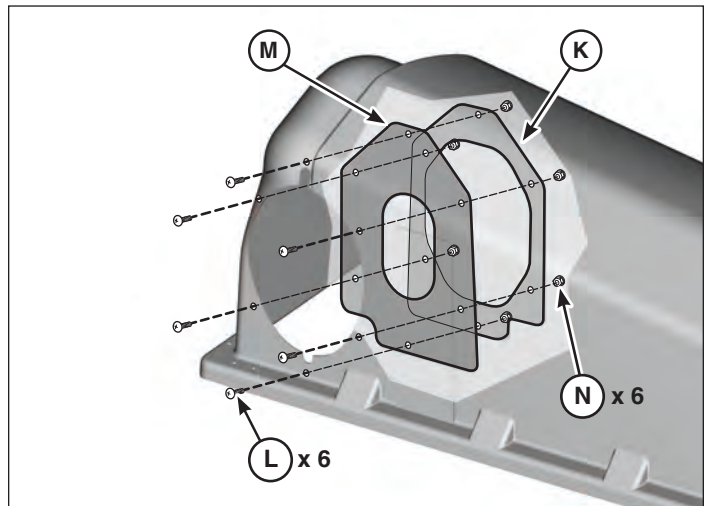

Figure 19
4. Align flange seal (K, Figure 19) and cover seal (M) with drilled holes on inside of grass catcher cover. Secure with screws (L) and nuts (N).